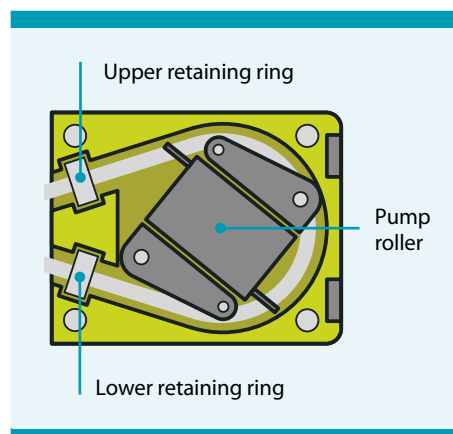

Figure 7.17: Load pump tubing
2. Insert the upper retaining ring on the pump tubing into the retaining ring groove on the pump housing (see Figure 7.17).